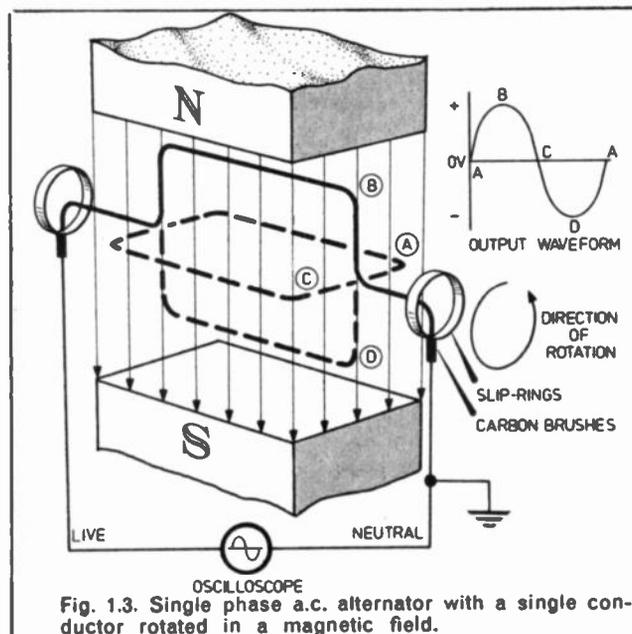

Fig. 1.3. Single phase a.c. alternator with a single conductor rotated in a magnetic field.
Assume now the ends of the conductor to be connected to two slip rings (see Fig. 1.3) with carbon brushes connected to the input of an oscilloscope. The speed of rotation of the conductor is now set to fifty revolutions per second (3,000 r.p.m.) and the strength of the magnetic field adjusted to generate a peak voltage of 339·41V alternating from positive to negative between the slip rings. This is a standard 240V r.m.s. supply.
This slip ring is the Live terminal and the generated supply will be the same as the single phase 240V supply of Live and Neutral as supplied to domestic premises. Fig. 1.3 also shows how the output voltage sine wave that would appear on an oscilloscope, the frequency being 50Hz.
This is similar to that shown in Fig. 1.3 but instead of having only one conductor rotating in the magnetic field, there are three, equally separated by 120 degrees. Each conductor will generate 240V at 50Hz as before but their respective peaks will occur
- 1.3. Examine Fig. 1.3. Can you suggest any way in which the voltage could be increased two-fold whilst keeping the same magnetic field strength and the same frequency?